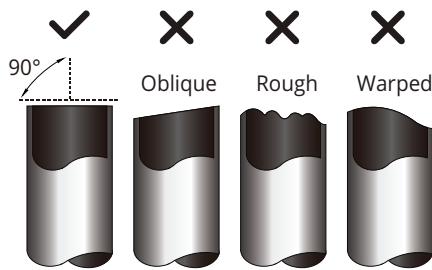

Fig 5.1
- Make sure that the pipe is cut at a perfect 90° angle. Refer to **Fig. 5.1** for bad cut examples.